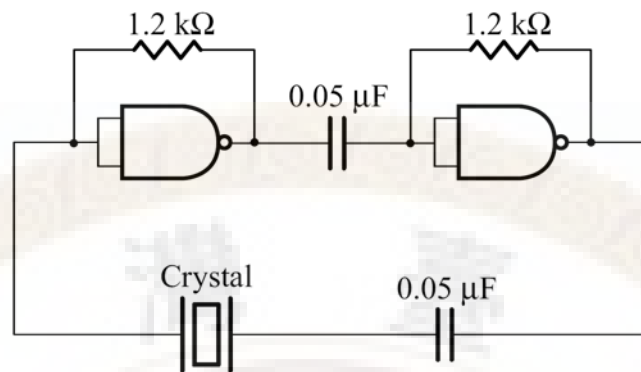

Fig. 4 Piezoelectric crystal circuit
- (1) In Fig. 4, supply voltage $V_{CC} = +5V$ to pin 14 of 74LS00 IC and short pin 7 to the ground.
- (2) Attach CH1 probe of oscilloscope in the node of the output of second NAND gate.
- (3) Observe whether the measured waveform in Oscilloscope is sinusoidal.
- (4) Observe whether the frequency of the measured wave is almost the same as that of piezoelectric crystal (3.58 MHz).
- (5) If the observations in step (3) and (4) happen to be wrong, try to change another chip of 74LS00 and crystal oscillator, respectively.
- (6) Record the oscillatory frequency $f_0 =$ _____ Hz.